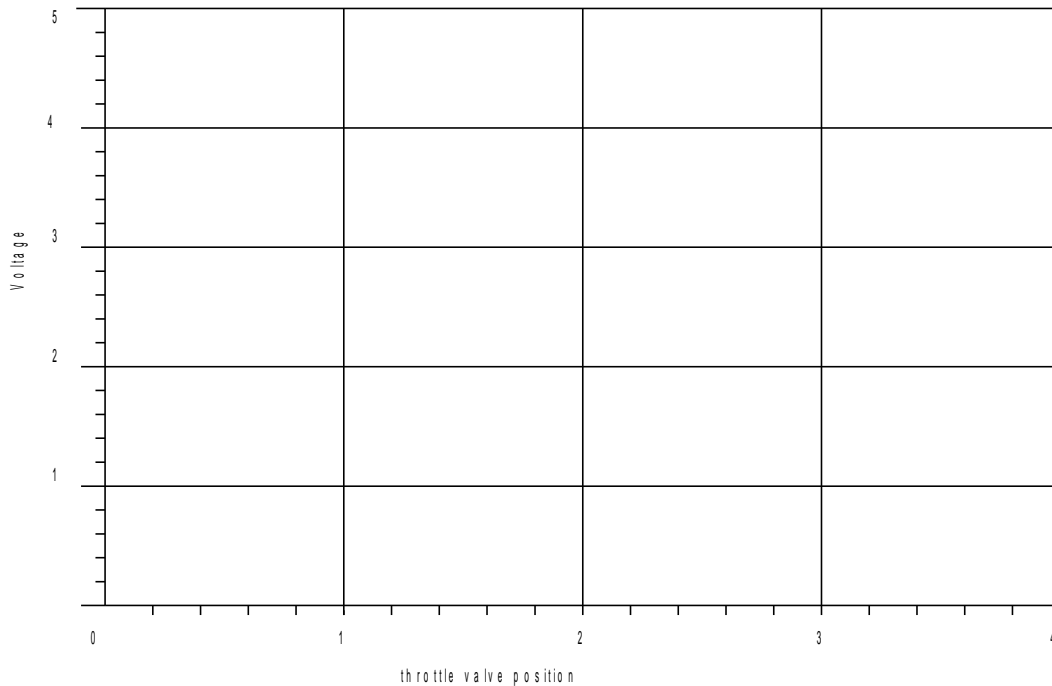

Fig. 5 The throttle valve position is measured here in voltage.
5) Place the measured results in the graph in fig. 5